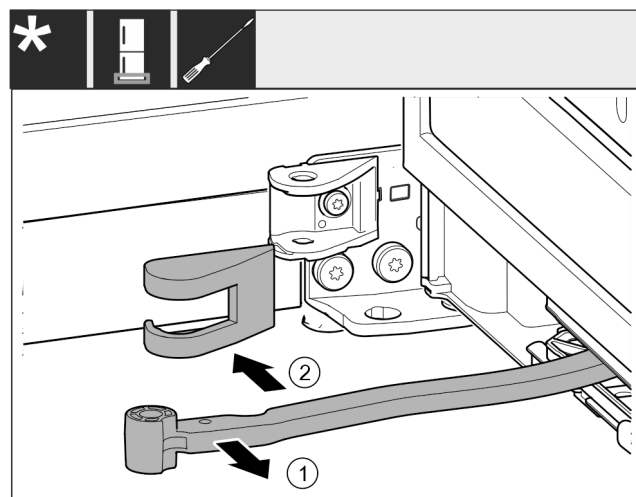

Fig. 18
- Turn the joint Fig. 18 (1) towards the door.
- Remove the swap bearing block cover Fig. 18 (2).